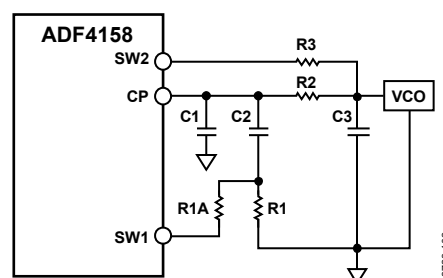

Figure 45. Fast-Lock Loop Filter Topology—Topology 2
- Connect an extra resistor (R1A) directly from SW1, as shown in Figure 45. The extra resistor must be chosen such that the parallel combination of an extra resistor and the damping resistor (R1) is reduced to ¼ of the original value of R1.